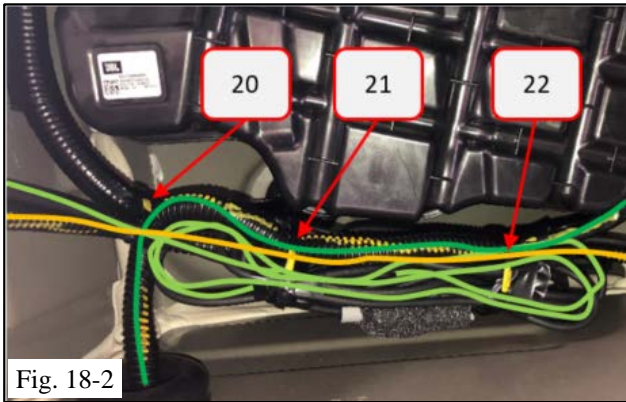

Fig. 18-2
- (a) Route the 4-Flat connector harness through the hole (Fig. 18-1[a] and Fig. 18-2[b]).
(d) Secure the 4-Flat Harness connection to Trailer Module Harness wrapped with foam tape, to trailer wire harness with wire ties (Fig. 18-2).
⚠ NOTE: Application of the electric insulating tape on the Trailer Power Wire is explained in Section 3, Step 5-vi above and applies for all wire ties shown in Fig. 18-2.